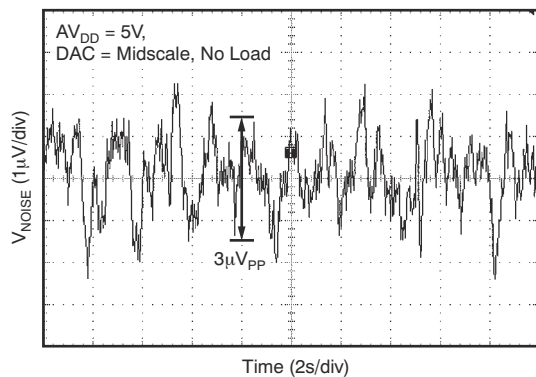

Figure 7-24. DAC Output Noise, 0.1-Hz to 10-Hz Bandwidth
- (5) For more details, see Figure 7-24.